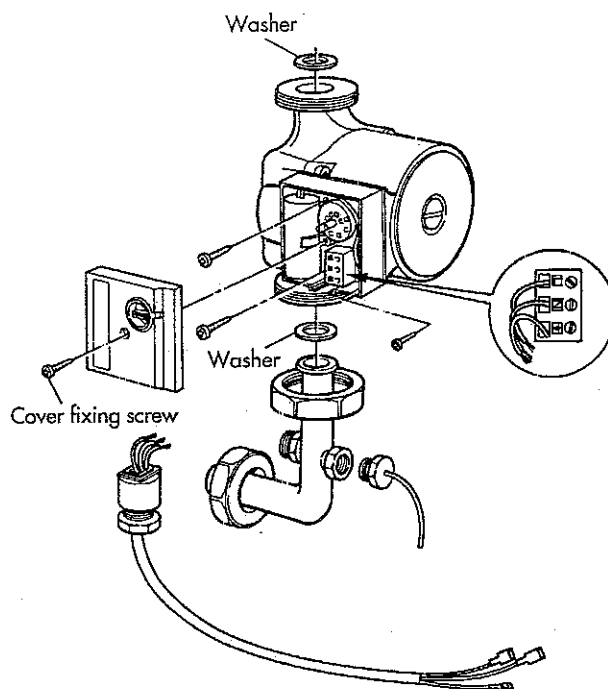

Fig. 40
- c) Remove electrical cover on pump, one screw (fig. 40) (Rotate pump to remove cover).
- g) Re-assemble in reverse order (fig 40).